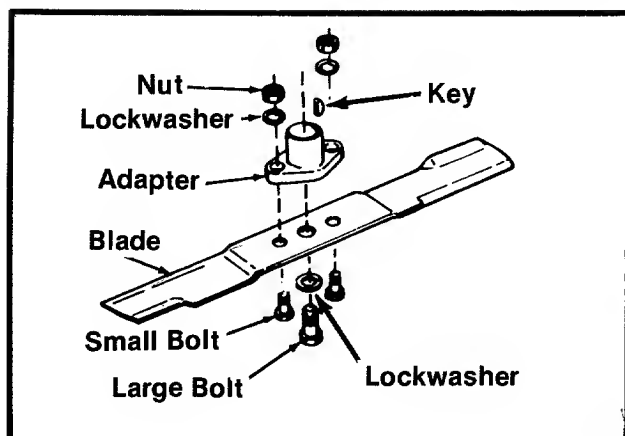

Figure 26
4. Remove the two smaller bolts, lockwashers and nuts holding the blade to the adapter. (See figure 26.)